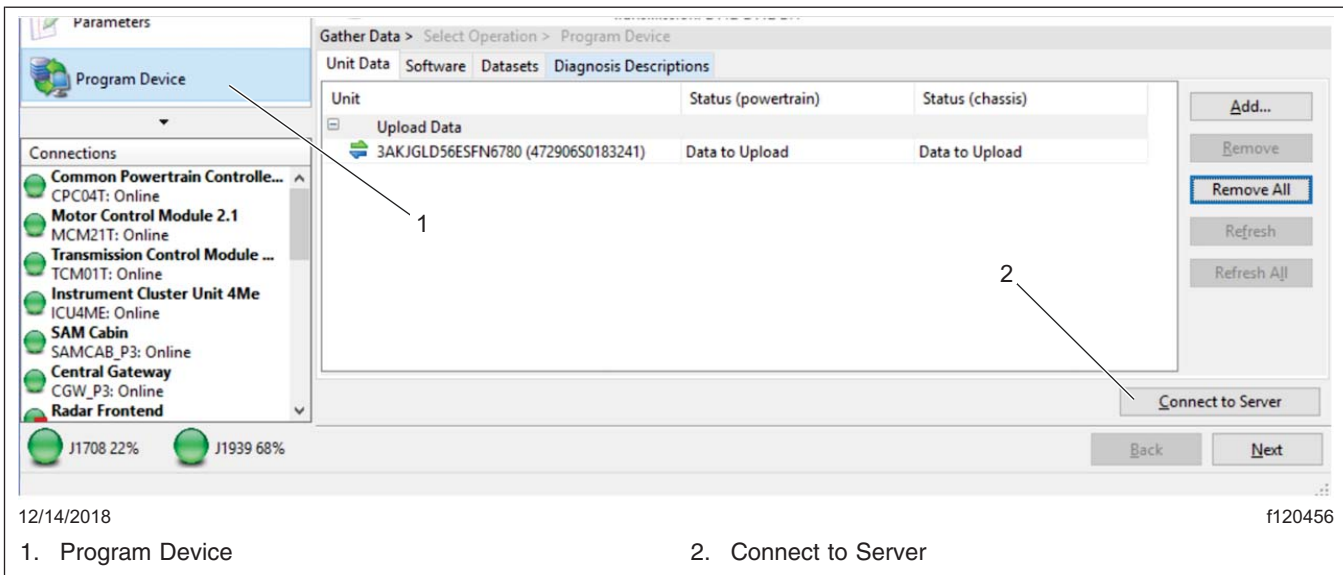

Fig. 5, Uploading Vehicle Parameters
5. Select "Program Device." There should be data to upload. Click "Connect to Server" to upload vehicle parameters to the server. See Fig. 5.